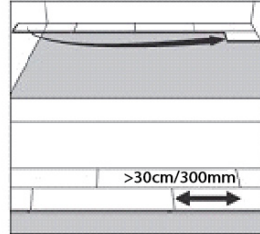

Figure 2
2. Position the first board in place by angling it up slightly, pushing forward and interlocking the side tongue. (Figure 2) Slide the board to the left as necessary to align the edges of the end joint.